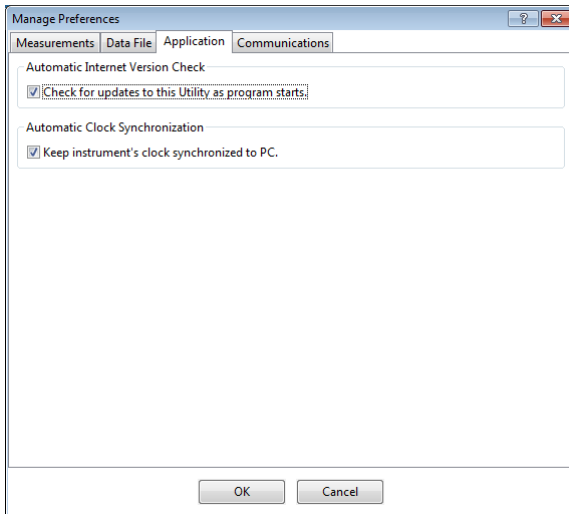

Figure 21 Application tab
- Application Tab (Figure 21):